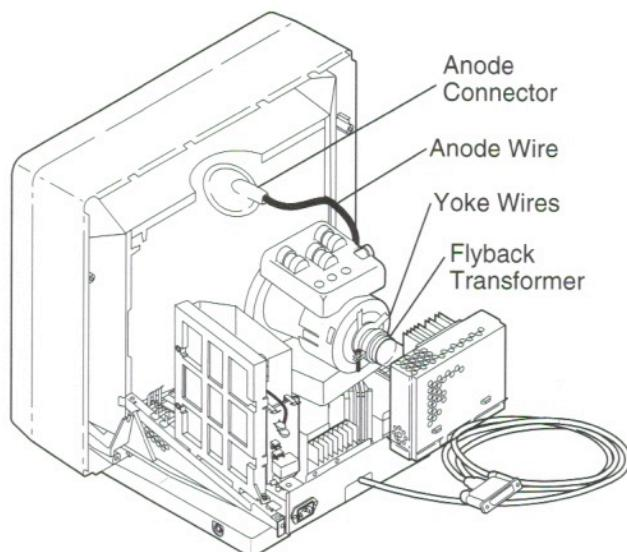

Figure 37. Apple Multiple Scan 20 Adjustments
Indicator Lights (see Figure 37)	Solutions
1. Press the plus (“+”) button to increase the brightness or contrast (see Figure 37).
2. Press the minus (“-”) button to decrease the brightness or contrast (see Figure 37).
1. Press the select button (marked with “⌘”) to turn on the centering indicator light (see Figure 37).
2. Press the plus (“+”) or minus (“-”) button on the brightness controls to move the center of the picture up or down, or the contrast controls to move the center of the picture right or left (see Figure 37).
2. Press the plus (“+”) or minus (“-”) button on the brightness controls (for vertical size) or contrast controls (for horizontal size) to increase or decrease the size of the picture (see Figure 37).
1. Press the select button (marked with “⌘”) repeatedly until the rotation indicator light goes on (see Figure 37).
1. Press the select button (marked with “⌘”) repeatedly until the convergence indicator light goes on (see Figure 37).
1. Press the select button (marked with “⌘”) repeatedly until the color temperature indicator light (see Figure 37) goes on.
2. Press the plus (“+”) button on the contrast controls to increase the color temperature (see Figure 37).
3. Press the minus (“-”) button on the contrast controls to decrease the color temperature (see Figure 37).
You can reset brightness and contrast to their factory levels. However, you cannot reset one or the other. You must reset both controls. Use a straightened paper clip to push in the Reset button (see Figure 37).
1. Press the select button (marked with “⌘”) repeatedly until the indicator light of the picture control you want to reset (vertical or horizontal center, convergence, or color temperature) goes on (see Figure 37).